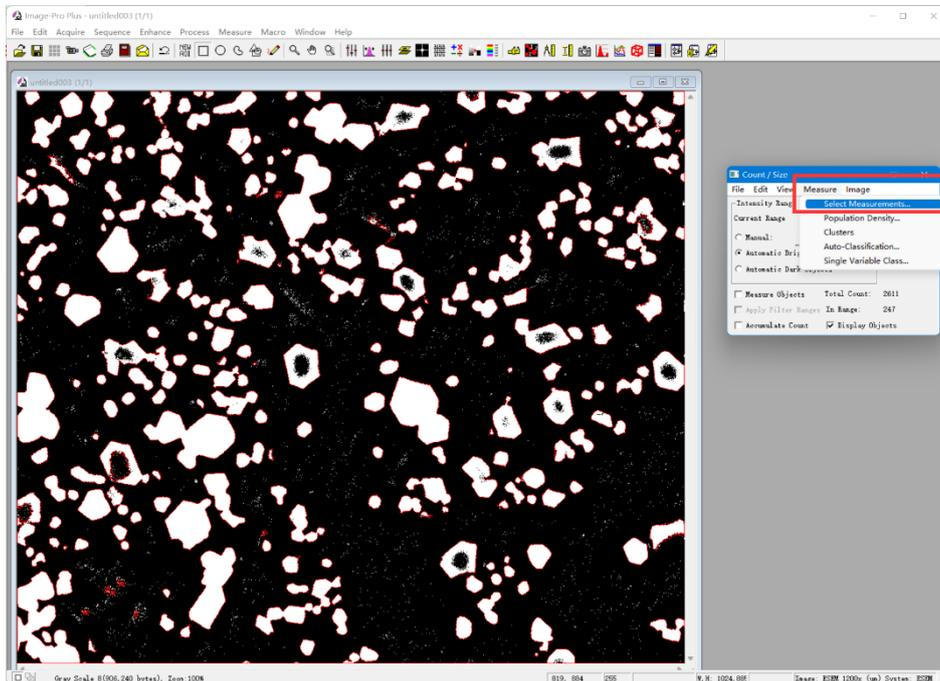
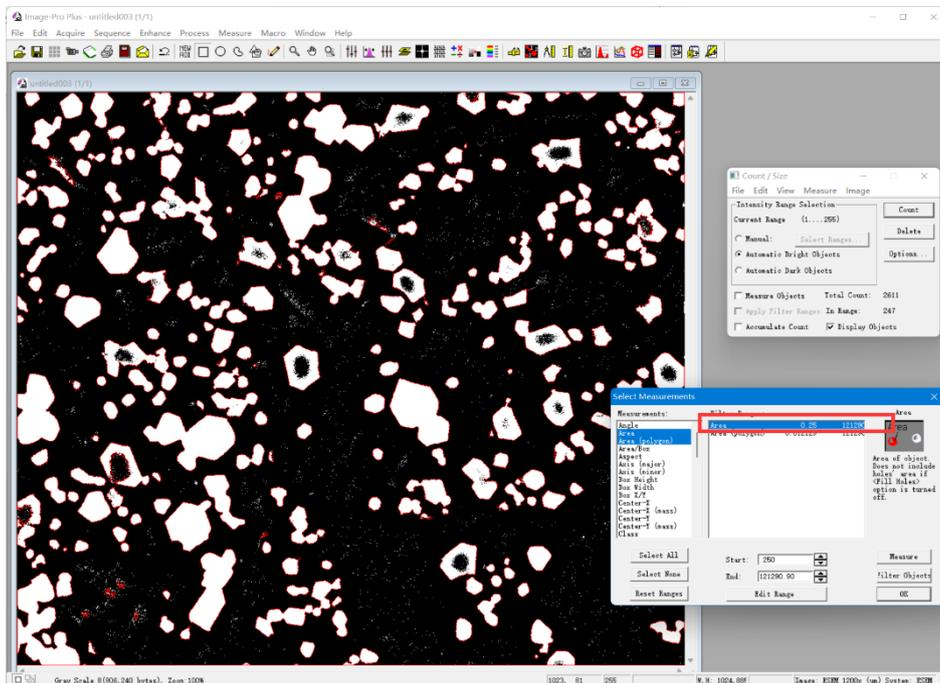

Figure S9. Click on the “Select Measurements” option.
Figure S10. Setup the measurement options.
- Click on the “Select Measurements” option shown in Figure S9, to select the value that you want to measure, as shown in Figure S10. During measurement process, you can set a threshold below which measurements will not be included in the final statistics. Then, you can manually delete the measurement results that do not belong to the Mg2Si phase by comparing with the original SEM pictures. Finally,